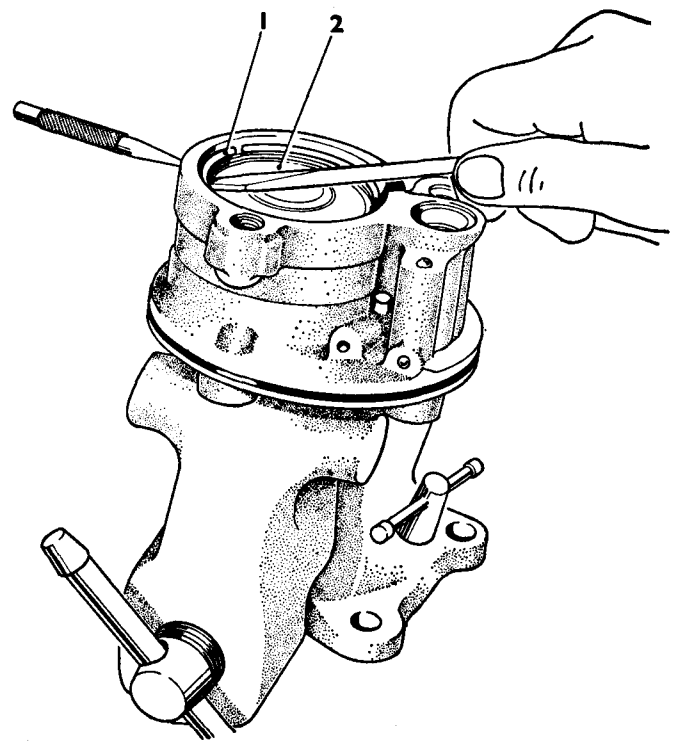

FIG. N12 METHOD OF REMOVING END PLATE RETAINING RING
9. Remove the end plate retaining ring of the pump housing. This is achieved by depressing the retaining ring using a punch inserted through the $\frac{1}{8}$ in. (3.18 mm.) hole in the pump housing (*see Fig. N12*).
10. When the ring is depressed, remove the ring from the housing with a screwdriver as shown in *Figure N12*. Withdraw the punch.
13. Lubricate the outer diameter of the end plate to prevent damage to the fitted 'O' ring. Position the pump under a suitable arbor press (see Fig. N19) and press the end plate into the housing sufficiently to allow the retaining ring to be fitted (see Fig. N12).